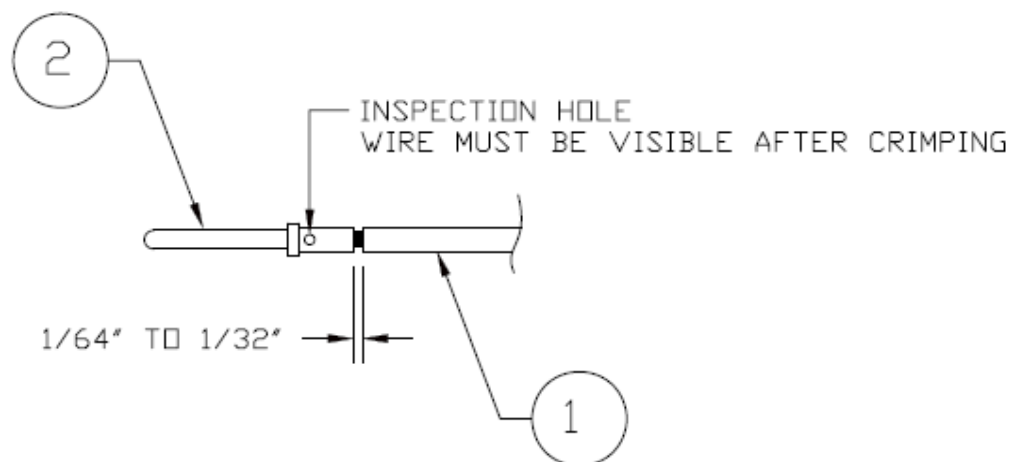

Figure B-1. Insulation/Contact Clearance
For the following steps please refer to indicated item numbers in Figures B-1, and B-2.
1. Strip back approximately 0.17 inches of insulation from both the positive and negative thermocouple leads (item 1) and crimp a pin (item 2) to each lead. It is the responsibility of the installer to determine the proper length of insulation to be removed. Wire must be visible in the inspection hole after crimping and the insulation must be $1/64$ – $1/32$ inches from the end of the contact as shown in Figure B-1.
Table B-4. Parts supplied for a Shield Block Installation (Figure B-1)
Table B-5. Parts NOT supplied for a Shield Block Installation (Figure B-1)